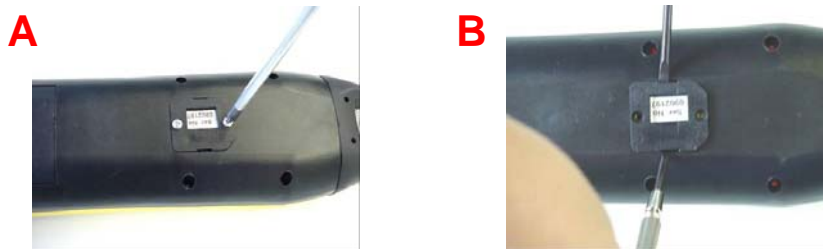

Figure 9. Extracting the EP70 Memory Module
1. Ensure the spare transmitter is **OFF**. Remove the EP70 Memory Module in the transmitter as shown in Figure 9 above.